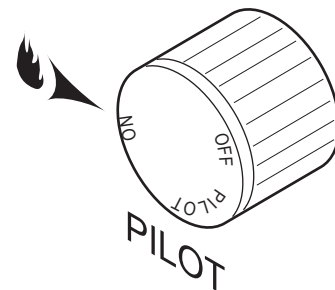

Figure 49 -
Depress and turn the knob counterclockwise ↶ to the "ON" position. *Figure 49*. It will take less than four (4) seconds for the burner to ignite.